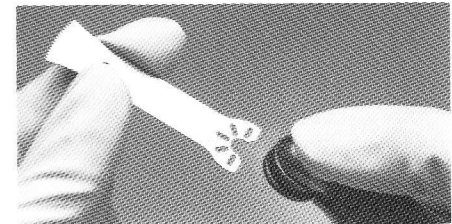

Figure 16
2. Insert the blade (oriented in the desired direction) so that the slots in the blade fit over the fins on the handpiece. See Figure 16.